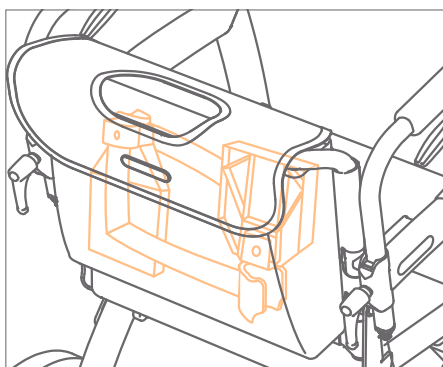

Figure 50: Storing footrests mirrored.
- Remove the footrests from the frame. Slide the footrests up until they are released from the footrest holders. Place them back into the bag of the Rollz wheelchair package, mirroring them to each other **(Figure 50)**.